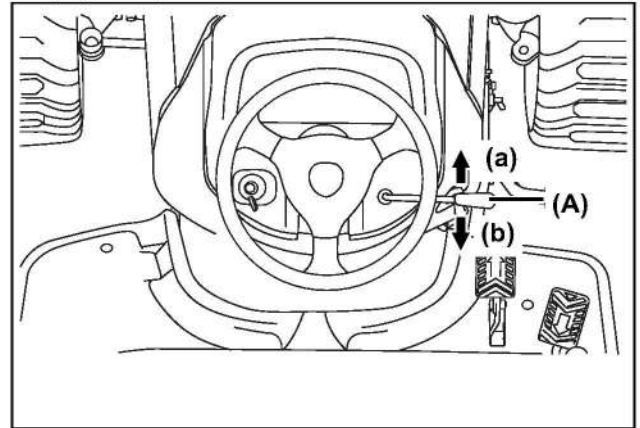

Fig 7-12
**(A) Implement control lever**
**(B) Implement control lever lock**
5. Push the throttle control lever forward from the slow idle position to the 1/3 to 1/2 fast positions. (Fig 7-12)